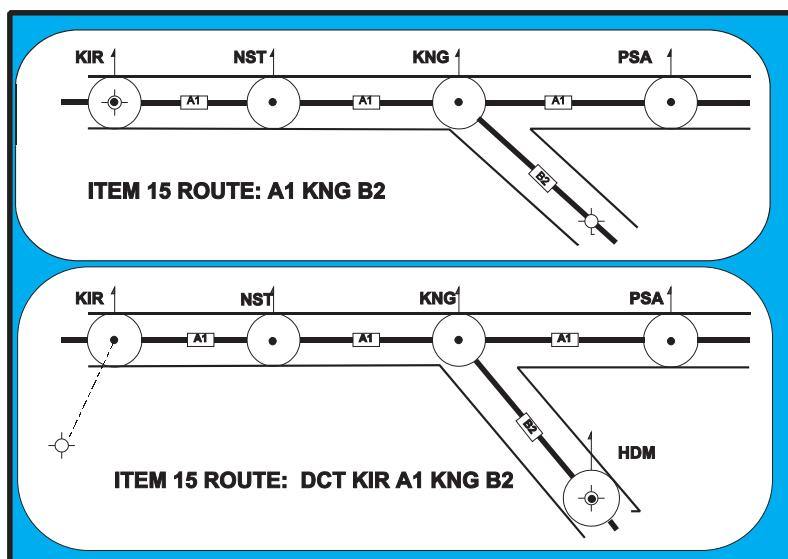

Figure 12.2 Use of DCT
- If a **departure airfield is located or connected to the ATS route** then the **coded designator** of that route will be the first entry. If it is **not on or connected to** the ATS route the first entry will be **DCT** followed by the **joining point**, followed by the **designator** of the ATS route. (*Figure 12.2*)